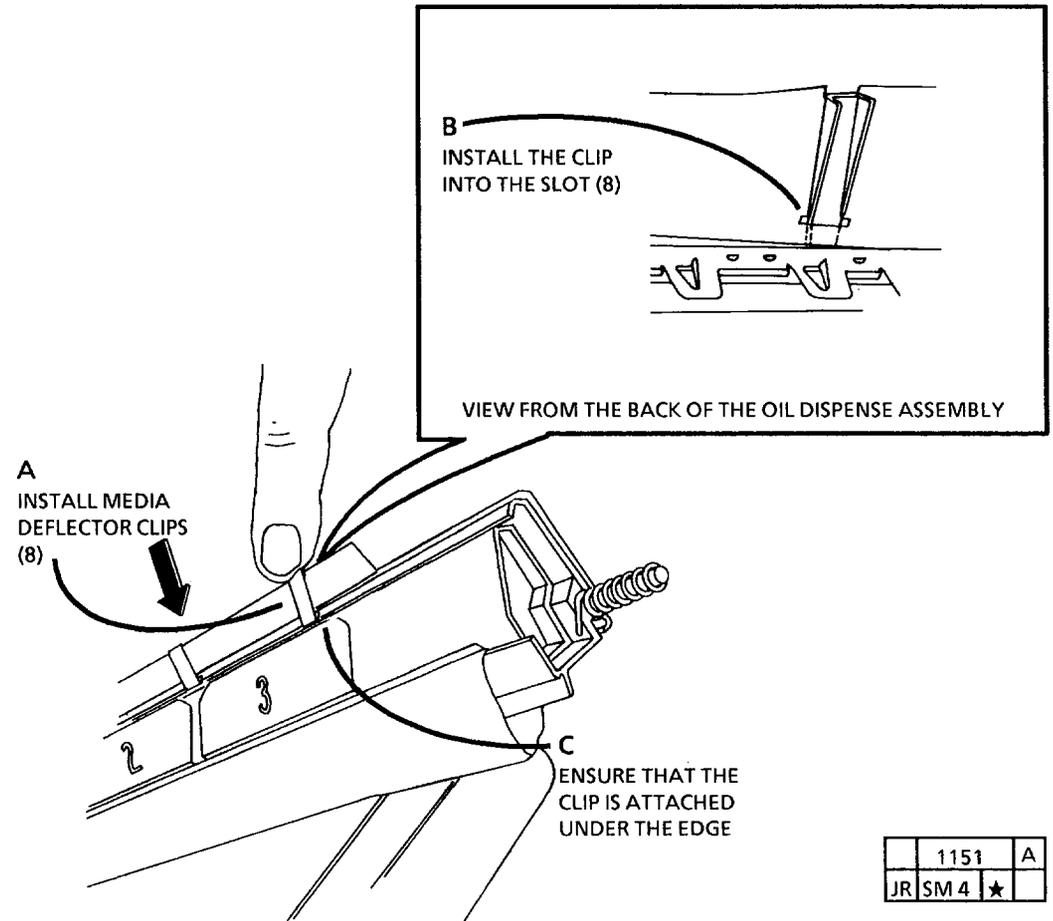

Figure 3. Install the Media Deflector Clips
2. (FIGURE 3): INSTALL THE MEDIA DEFLECTOR CLIPS.